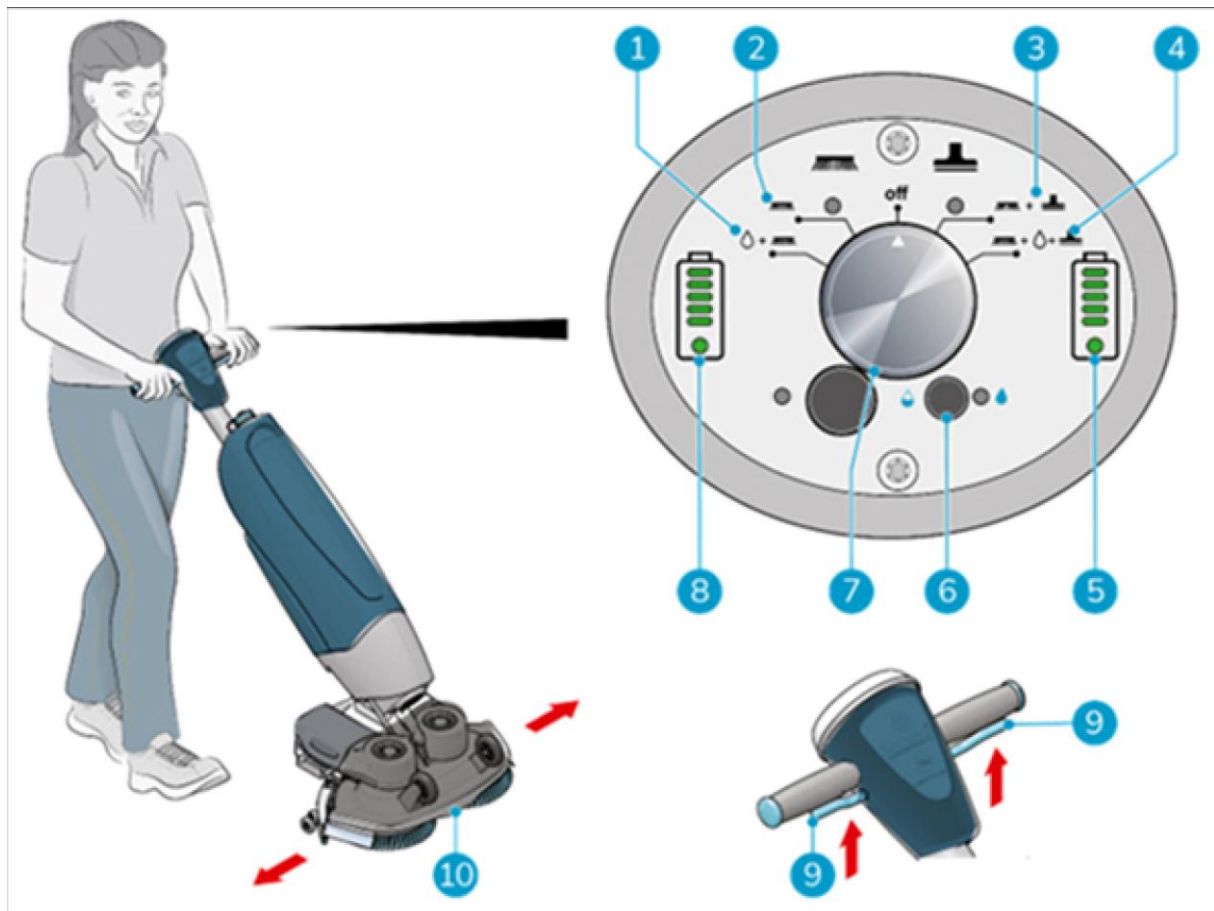

Figure 18
4. Stand behind the i-mop® XXL. Select the desired cleaning mode by turning the control knob. (figure 18.)
MODE 1: Brush + water/cleaning solution (Figure 18, pos 1).
MODE 2: Brush only (Figure 18, pos 2).
MODE 3: Brush + vacuum (Figure 18, pos 3).
MODE 4: Brush + water/cleaning solution + vacuum (figure 18, pos 4).
6. Squeeze the trigger on the handle (Figure 18, pos 9). This will also start the i-mop® XXL. Once the trigger is squeezed the i-mop® XXL will move forward.
8. Steer by gently turning the handle left or right to move the scrub deck (figure 18, pos 10).
9. Releasing the trigger (Figure 18, pos 9) will immediately stop the i-mop® XXL. The vacuum motor will stop after 3 seconds.